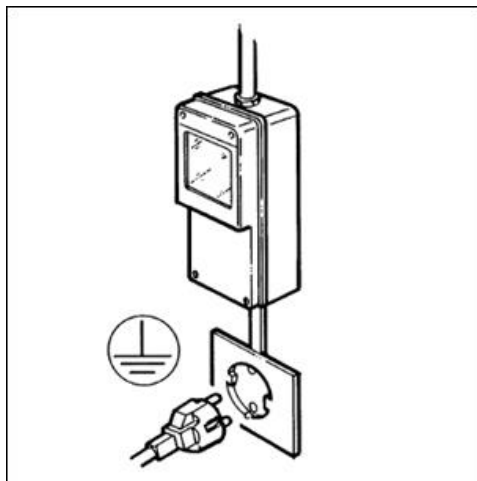

Fig. 50
- The machine's electrical safety is only guaranteed when it is connected to a suitable earth system, structured as provided by the national safety current regulations (Fig. 50). Therefore, the manufacturer cannot be held responsible for any damage due to failure of the grounding system of the machine.
- For a safe and correct installation, it is essential to provide a suitable socket controlled by a thermal cut-out switch whose contacts are at least 3 mm apart, in accordance with the current national safety regulations (see Fig. 50).